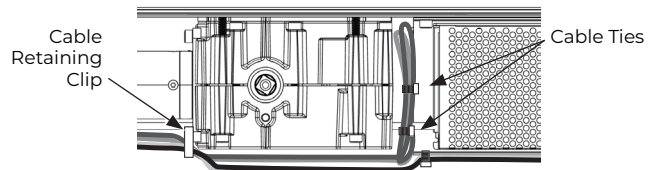

Figure 17 Left Hand Door, Looking down from top
3. With door fully closed, rotate the main arm toward the latch edge of the door until the arm tube is at a 90° angle (perpendicular) to the door. (Figure 17)
4. Use the arm screw provided with the main arm to secure the tube to the forearm rod. (Figure 17)
1. To prevent wire crimping, use the cable ties provided to neatly store loose wiring as shown. The power cabling to the connector board should be cable tied along the operator body. Any loose wire should be stored between the operator body and power supply. (Figure 17)